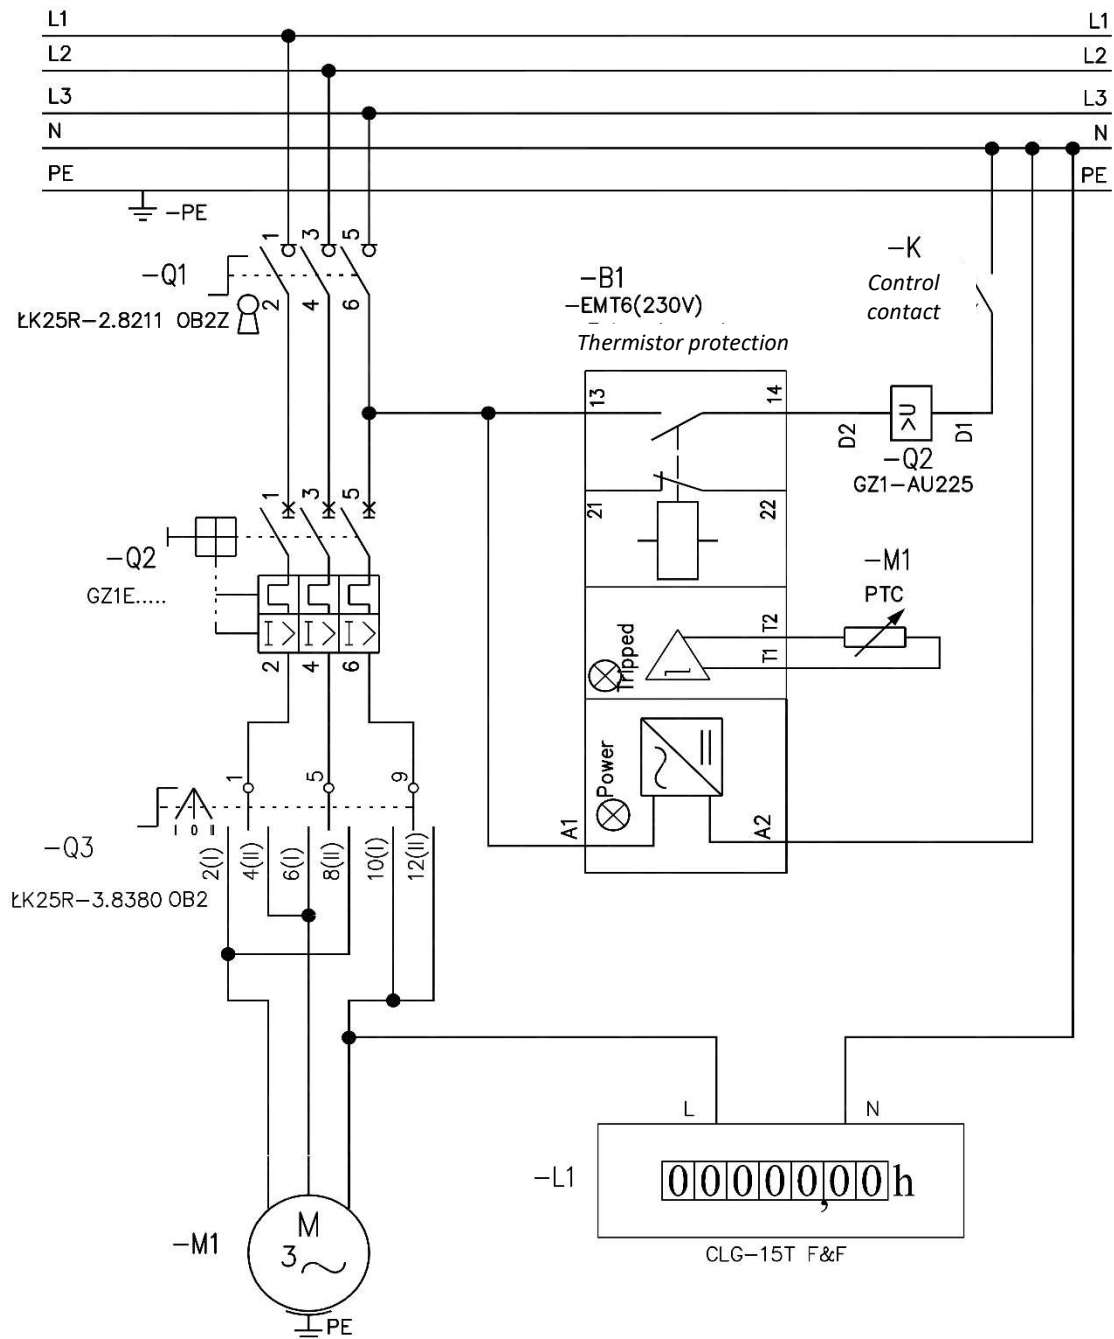

Figure 15. An example of the wiring diagram for conveyors of the PSWEX type
An example of the wiring diagram is shown in Figure 15.
- a motor secured by a correct connection and adjustment of the thermal switch (Figure 15, switch Q2);
- the function for automatic stop of the conveyor work in the event of any abnormal work of auxiliary equipment (K) (e.g. failure of another conveyor) or people entering areas in a silo in which the conveyor works - switches and/or sensors are not included as the conveyor equipment;
- all devices and subunits of the electrical system (Figure 15), except for the electric motor (M1), should be installed outside the explosion hazard zone.
**Devices and subunits - Figure 15: Q1, Q3, K i L1 - are not provided as the conveyor equipment.**